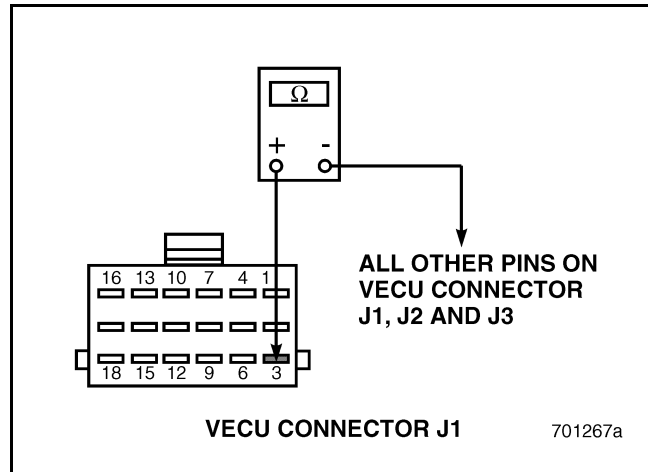

Figure 517
4. Check for continuity between VECU connector J1 pin 3 and all other pins on VECU connectors J1, J2 and J3 (see Figure 517).